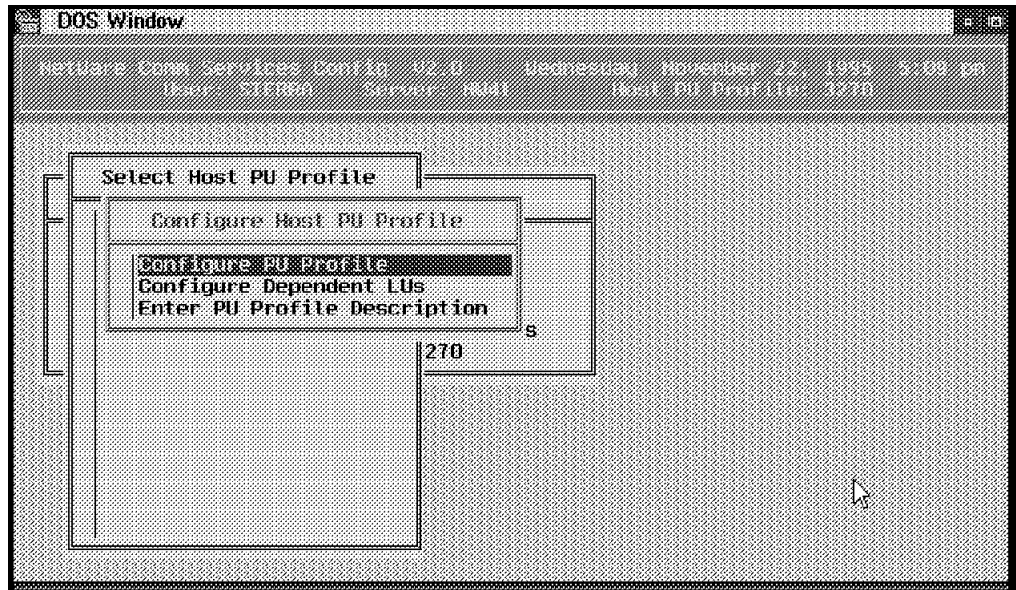

Figure 211. Configuring Host Connections - Creating a New Profile
9. Once you have typed in the name and pressed Enter, a panel is displayed as shown in Figure 211 on page 209.
11. Press Esc to go back to the panel shown in Figure 211 on page 209. Then select **Enter PU Profile Description**.
22. At this time it can be useful to check your PU-LUs association. To do that return to the panel shown in Figure 211 on page 209 and choose **Configure Dependent LUs**. The list of all the available LUs is then shown (see Figure 222 on page 215), and you can check the associations performed.